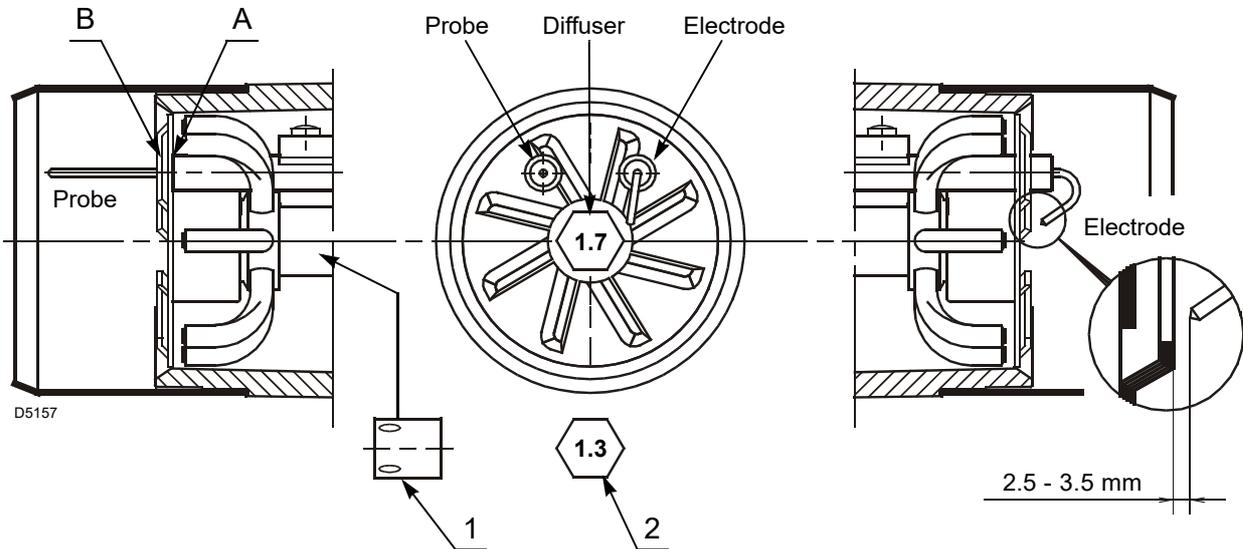

Fig. 12
Do not turn the ignition electrode but leave it as shown in Fig. 12.
Place the ceramic part of the electrode A against the diffuser disc B)(Fig. 12).
- insert the reducing element 1)(Fig. 12);